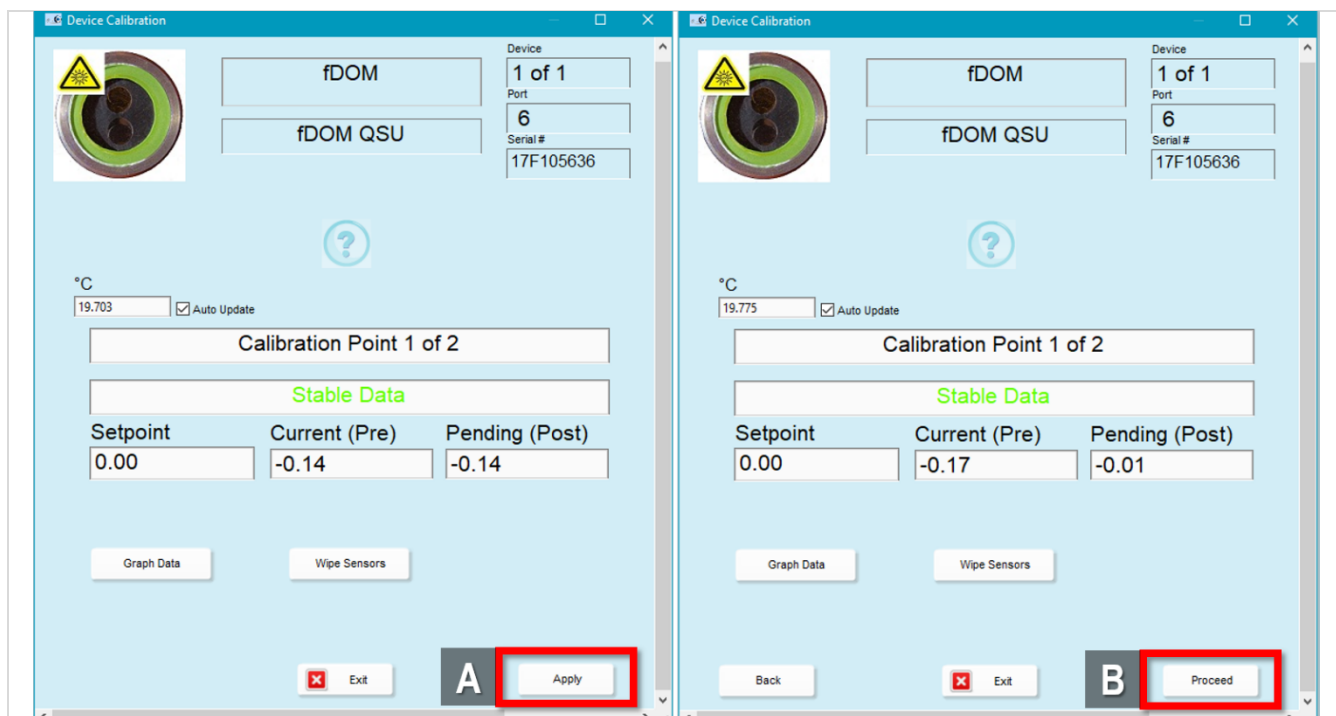

Figure 114. When Calibration Point 1 of 2 Displays "Stable Data", Click "Apply", then "Proceed"
**STEP 3** | Once the **Device Calibration** window displays **Stable Data** for Calibration Point 1 of 2, click “Apply” (A of Figure 114), and then “Proceed” (B of Figure 114).